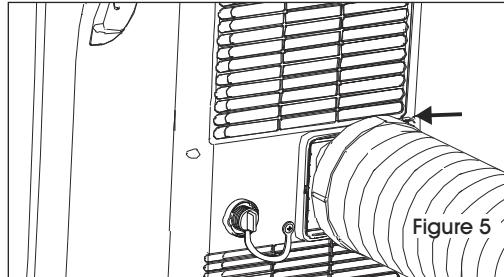

Figure 5
4. Slide the assembly onto unit. (See Figure 5)